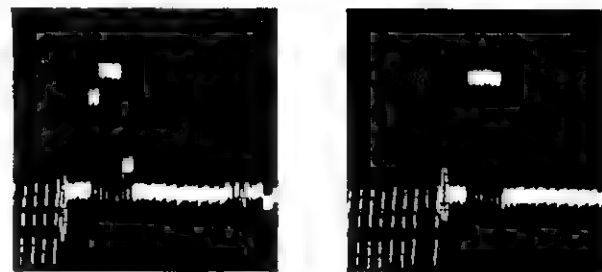

Fig. 4-7. — Vertical Equalizing-Vertical Sync Pulses
3. Adjust R3317 so that the pulse level matches **before** and **after** transition from vertical equalizing pulses to Vertical sync pulses (Fig. 4-7).